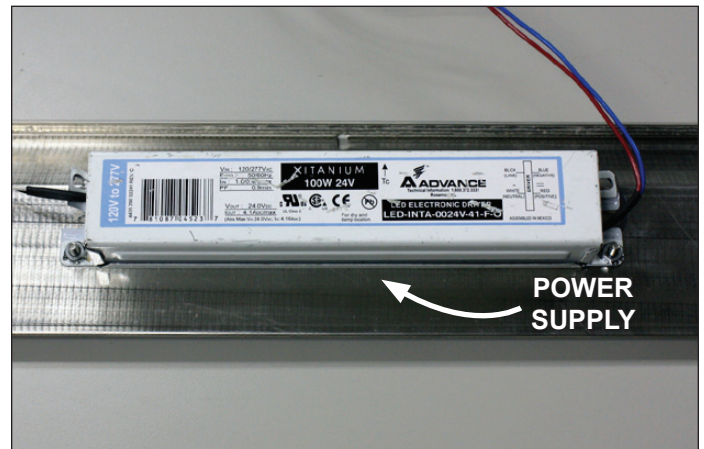

Fig. 18 Clear view of the power supply on the back side of the light reflector
3. Disengage the front edge of the light reflector by lifting it free of the front channel hinge, then carefully remove. Ballasts/power supplies will now be visible on the back-side of the reflector (Fig. 18).